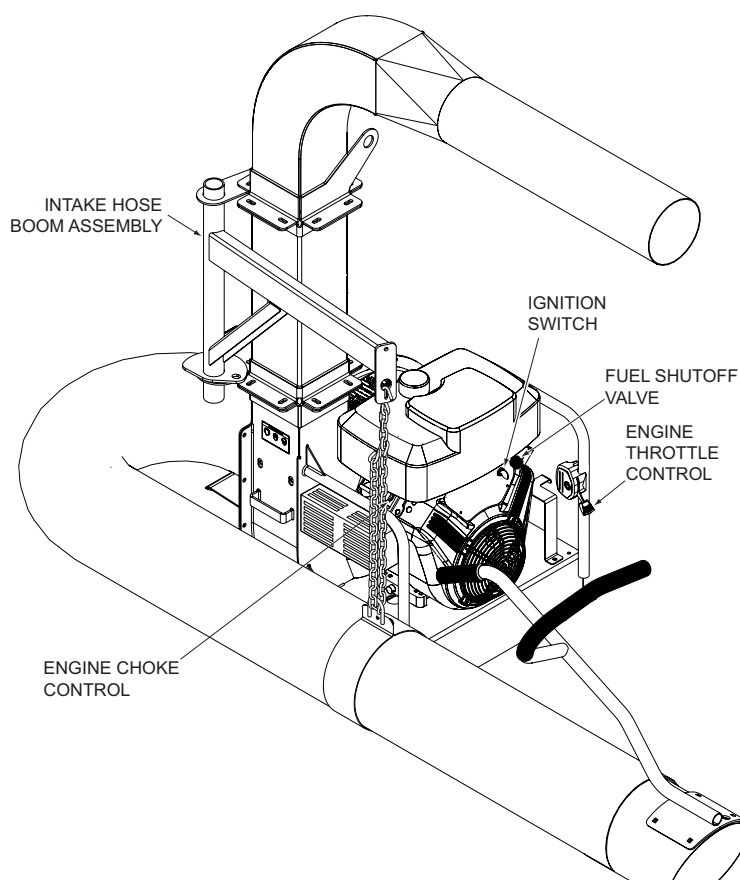

Figure 4-1. Controls and Instruments - TLH Model Shown
1. **Ignition Switch (Figure 4-1).** The ignition switch is used to start the engine and has three positions; OFF, ON, and START.
2. **Engine Throttle Control (Figure 4-1).** Use to control the engine speed. Pushing the lever inboard increases engine speed. Pulling the lever outboard decreases engine speed. Full outboard position is the IDLE position. Full inboard is the operating position.
3. **Engine Choke Control (Figure 4-1).** Use to start a cold engine.
4. **Fuel Shutoff Valve (Figure 4-1).** Located under the fuel tank. Use to shut off fuel supply to the engine. Rotate the valve counter clockwise to supply fuel. Rotate the valve clockwise to shut off fuel supply.
5. **Intake Hose Boom Assembly (Figure 4-1).** Use to support the intake hose. The support chain can be raised or lowered until the intake nozzle floats 2-3 inches from the ground to help make operation easy and comfortable.
2. Be sure the fuel shutoff valve, located under the fuel tank, is completely open. See Figure 4-1.